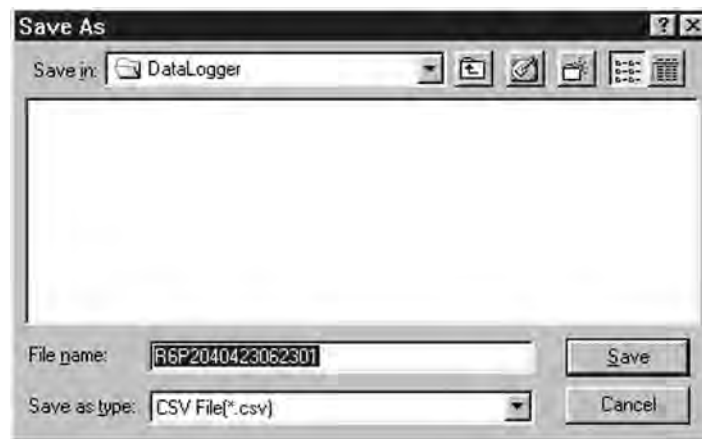

Fig. 113
2. Select the disk and folder where the data will be saved and specify its file name. (Fig. 113)